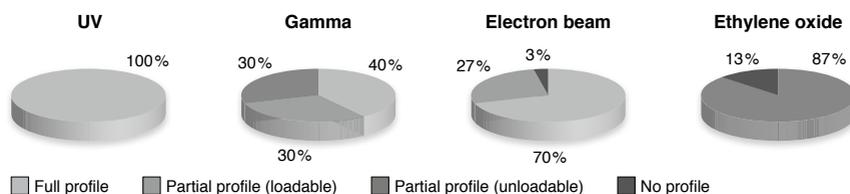

Figure 1: According to Shaw *et al.*, 2008, Comparison of the effects of sterilization techniques on subsequent DNA profiling. *Int J Legal Med* 122: 29-33.
NucleoSpin® Tissue is certified as forensic quality product. Consumables used in forensics need to be treated carefully to prevent DNA contamination. MACHEREY-NAGEL therefore has a stringently controlled production process to avoid DNA contamination of consumables. Further, MACHEREY-NAGEL uses ethylene oxide (EO) treatment to remove amplifiable DNA, which might still be introduced during the manufacturing process. MACHEREY-NAGEL products carrying the forensic quality seal, contain plastic materials that are EO treated. This means, DNA of any kind, which might still be introduced into plastic consumables during the production process, is inactivated by means of the treatment with ethylene oxide, in order to prevent the generation of accidental human profile by PCR amplification. Ethylene oxide treatment has been shown to be the method of choice to prevent DNA profiles due to DNA contamination (Shaw *et al.* 2008; Figure 1).